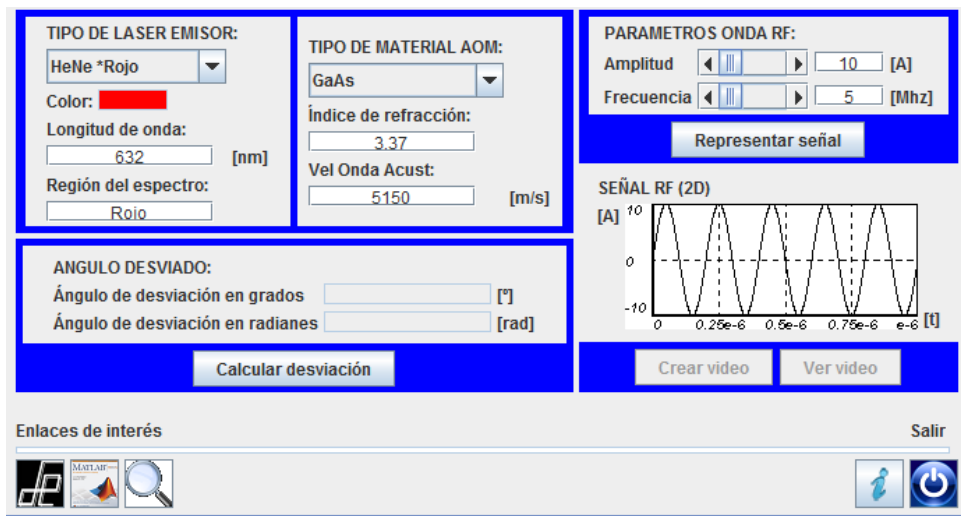

Figure 3. Example of AO simulation experiments
- **Simulation:** The simulation of the AO interaction will be carried out using a GUI similar to the one displayed on Figure 3. **Please note these examples are not fully developed.** Just use them as inspiration to build your own GUI.
- When entering any parameter on your GUI, you should allow the user to either type them numerically (e.g. "632" for the wavelength of a red laser, expressed in nanometer), or select them using a graphical object (e.g. combo-box with pre-defined values for laser wavelengths, as in Figure 3. Example of AO simulation experiments